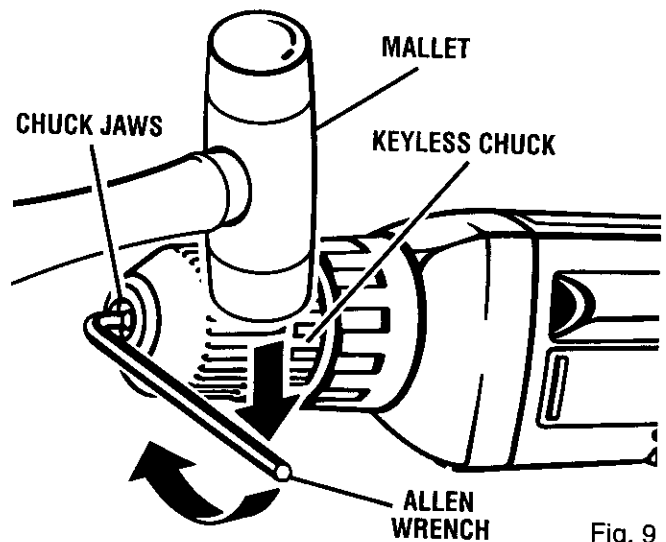

Fig. 9
See Figures 9, 10, and 11.
- Tap the allen wrench sharply with a mallet in a clockwise direction. See Figure 9. This will loosen the screw in the chuck for easy removal.